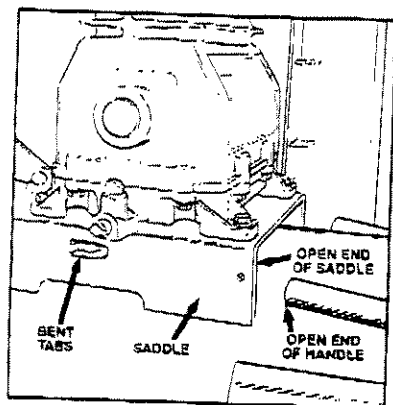
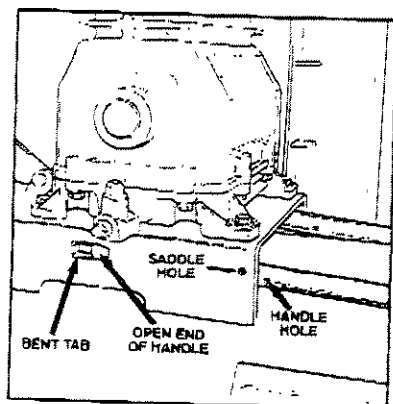

FIG. 1
FIG. 2
1. Insert the open end of the handle under the saddle (Fig. 1). Before attaching handle, you may have to pull the open ends of the handle apart so they fit tightly against the side of the saddle. Looking in from the open end of the saddle, position the handle towards the two bent tabs, on the inside walls of the saddle. Slowly push the open ends of the handle onto both tabs at the same time (Fig. 2). Continue pushing the handle into the saddle until the holes on the side of the saddle and handle are in line.